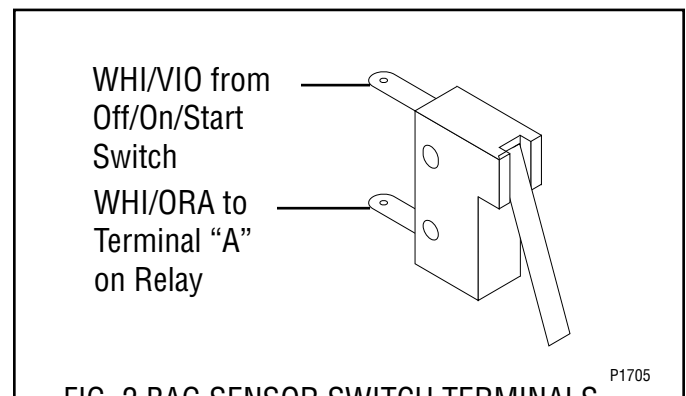

FIG. 2 BAG SENSOR SWITCH TERMINALS
6. Refer to Fig. 2 when reconnecting the wires.